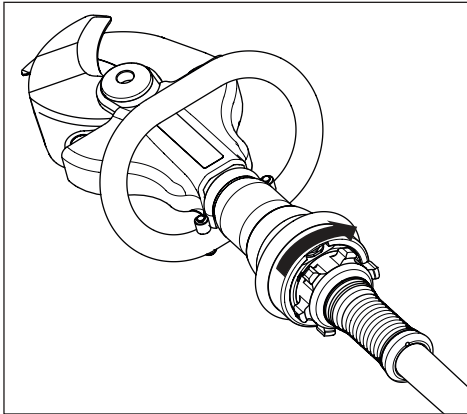

Figure 7, Cutter Closed
- To close the blades: Rotate the knob to the right and hold it in place. See Figure 7.